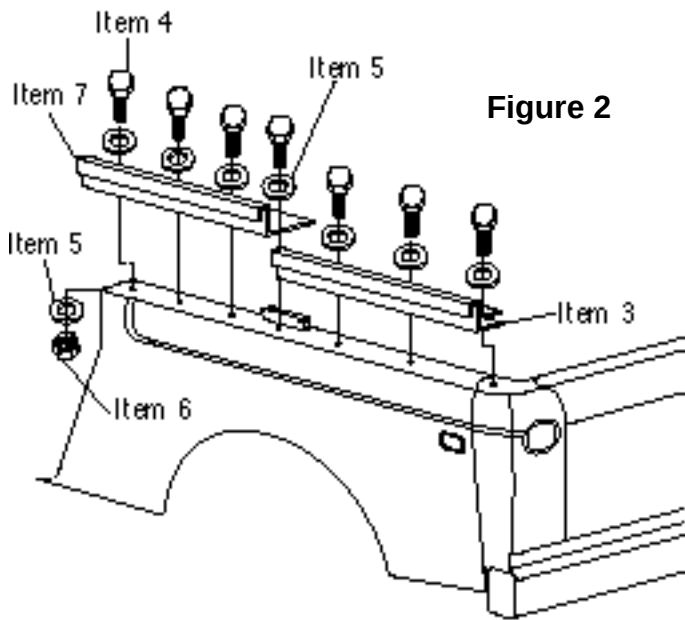

Figure 2
Step 2. Belt Rails. Locate rear belt rail (Item 3) on top of body. Belt rail should remain parallel with inside edge of body. Using existing holes on top of body, place 1/4-20 x 3/4" hex bolts (Item 4) through 1/4" flat washers (Item 5), belt rail and into mounting holes in body. Secure with 1/4-20 hex nut (Item 6). Place front belt rail in front of rear belt rail and secure to body in the same manner. Repeat for the other side. See figure 2.